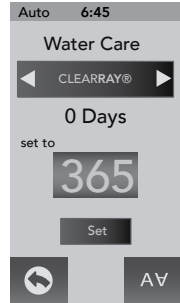

Figure 12.7c
1. From the “Water Care” Menu you can to set the CLEARRAY UV bulb timer, Figure 12.7c.
2. Tap and scroll the days timer (365) to change the days in 10-day increments. The range is from OFF to 365 days.
A programmable “Water Refresh” reminder can be set to remind you when to drain and refill the spa. Tap **▶** (Figure 12.7c) until you reach the “Water Refresh” tab to enter the Programming Menu.